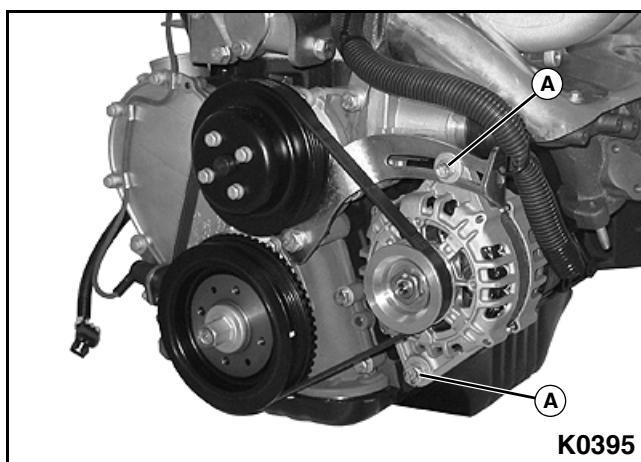

Figure 5-18
1. Loosen the two alternator mounting bolts (A) on the alternator and mounting bracket. **See Figure 5-18.**